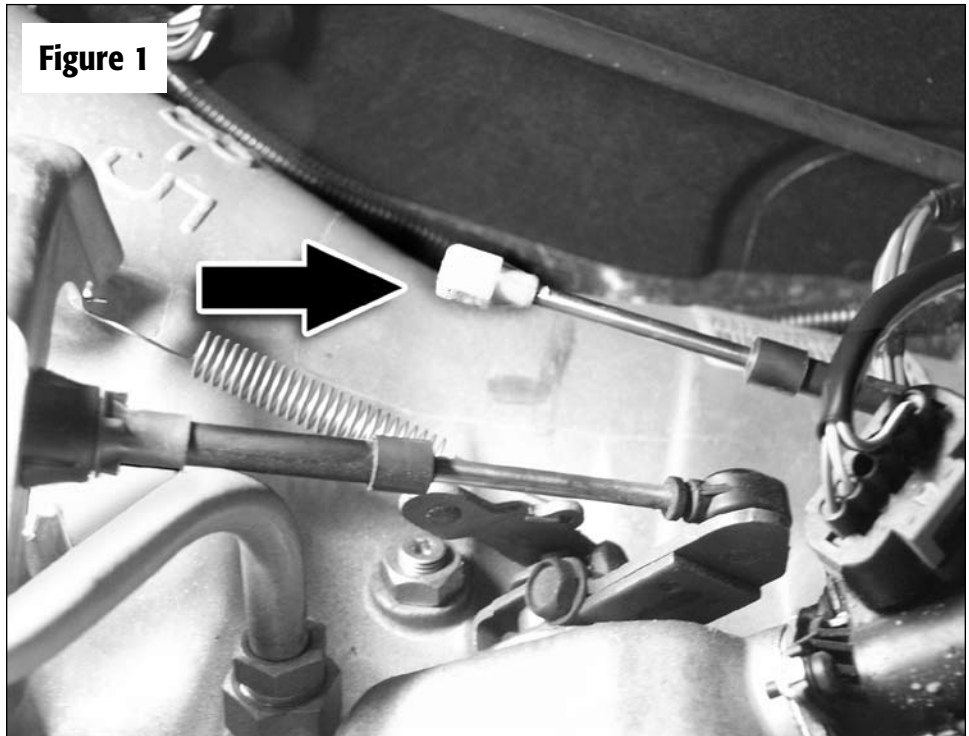

Figure 1
4. Disconnect the cable from the kick-down lever on the side of the transmission case as shown in **Figure 1**.